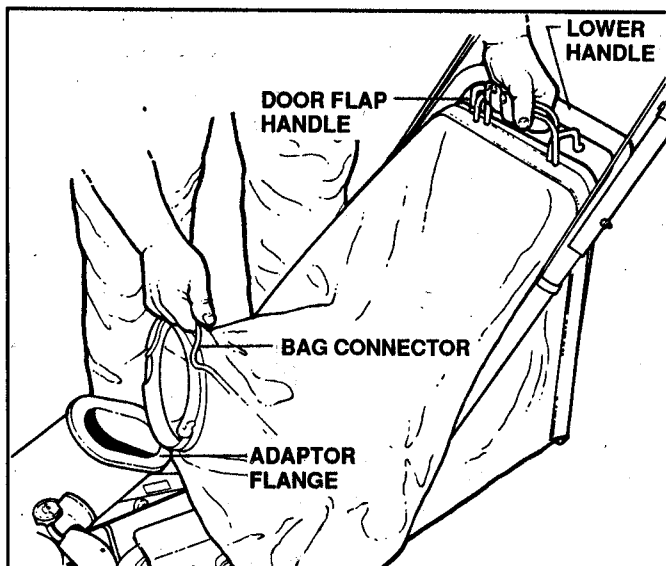

FIGURE 2.7
- B. Lift rear of bag up and over the lower handle. See Figure 2.7.